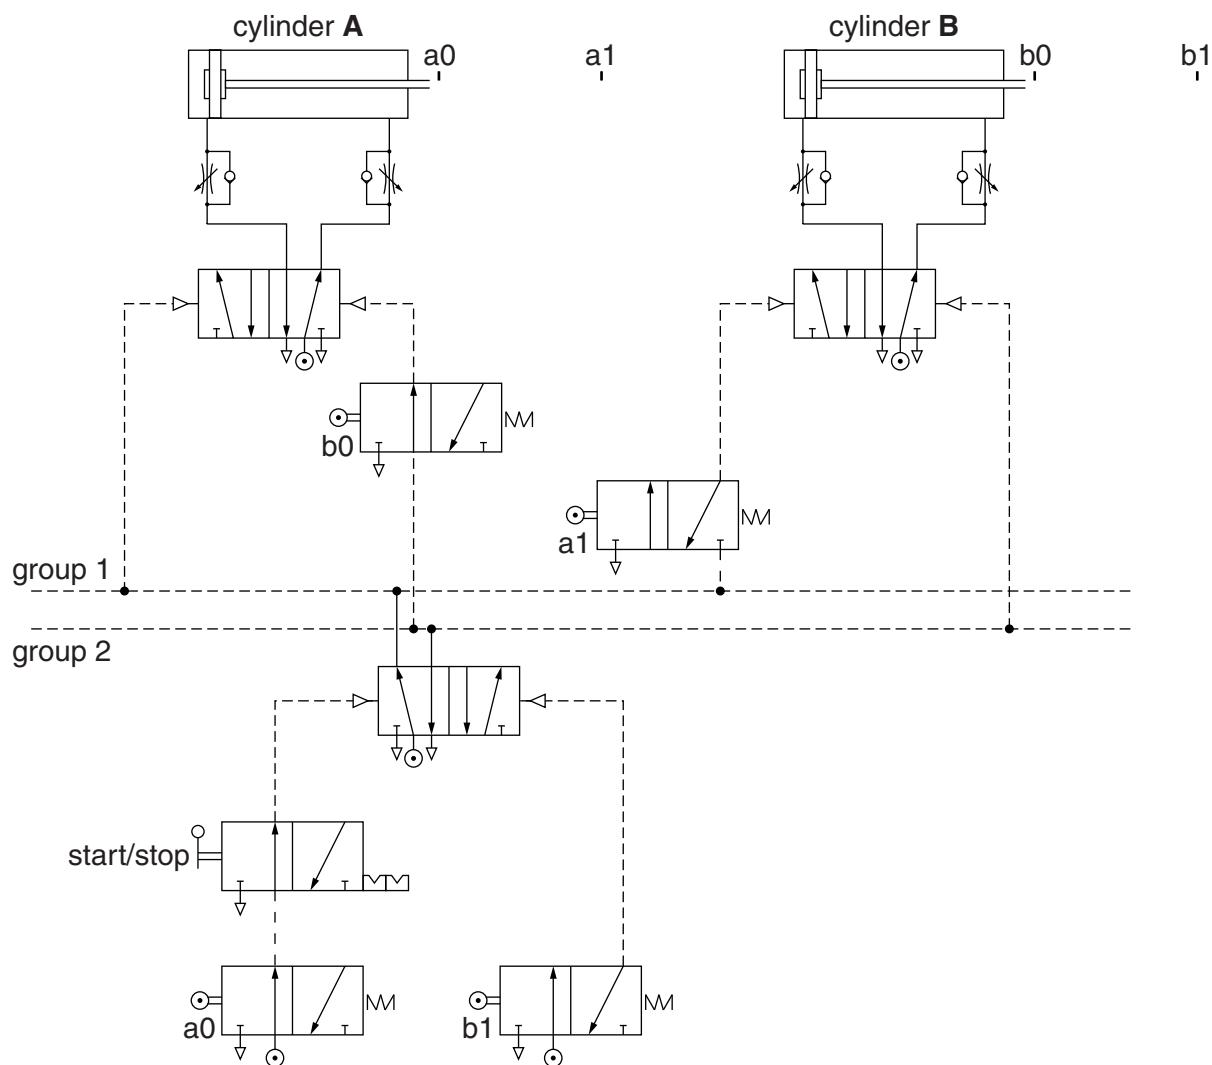

Fig. 7
- 19 The circuit to operate cylinders **A** and **B** in the sequence **A+** / **B+** / **B-** / **A-** is shown in Fig. 7.